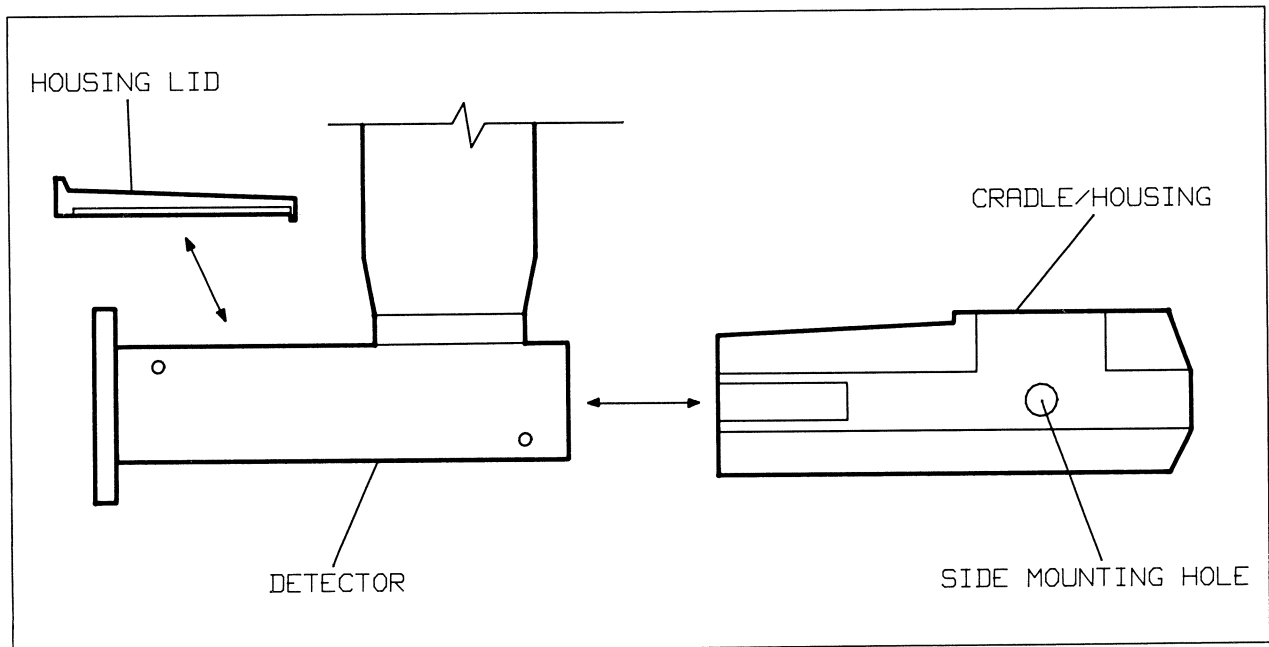

Figure 2-3. Detector and Removed Cradle/Housing
1. Slide the cradle/housing off of the detector (Figure 2-3).
4. When the cradle/housing is secured to the stand, place the housing lid on the detector and slide the detector onto the cradle/housing (refer to Figure 2-3).